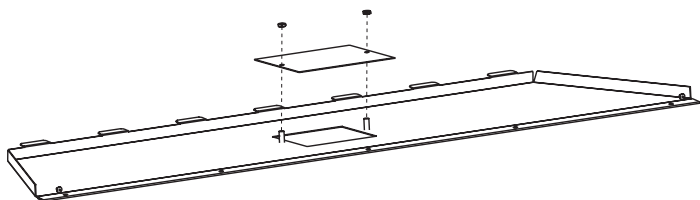

Figure 5
5. Remove plate from the inner firebox top by removing the two nuts securing it. Discard the plate. **See Figure 5.**